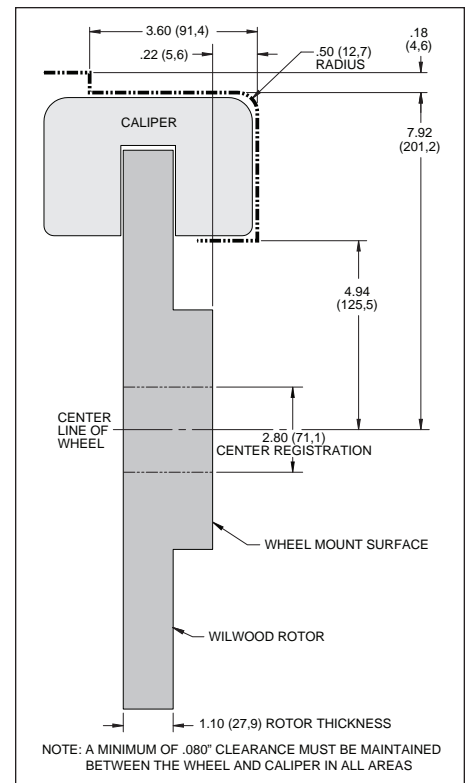

Figure 4. Wheel Clearance Diagram
- Review the wheel clearance diagram (Figure 4, page 3) to verify that there is adequate clearance with the wheels you will be using with the installation.
• Verify your wheel clearance using Figure 4.